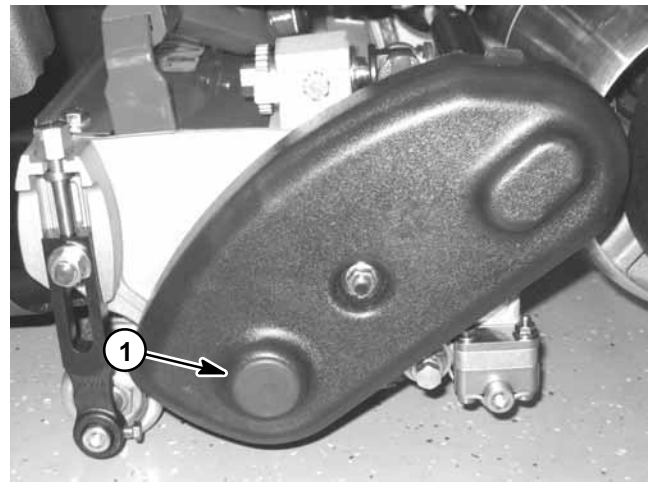

Figure 13
3. Remove plug from the reel drive cover on the left side of the reel assembly (Fig. 13).
6. Install reel drive cover plug when backlapping operation is completed (Fig. 13).